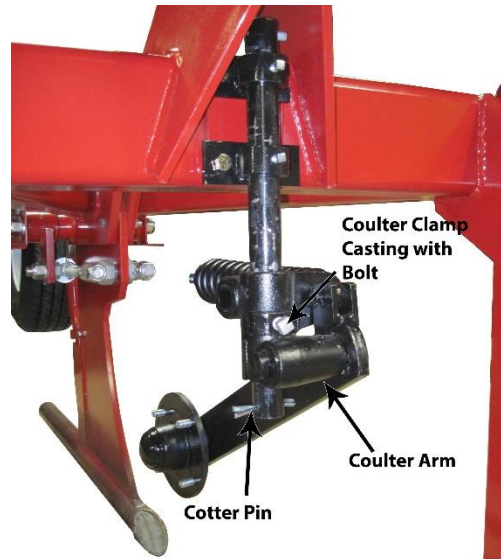

Figure 8: Coultter Arm Mounted on Coultter Shank
- c) Slide the coulter shank into position as shown in Figure 8. Clamp the coulter shank in place by tightening each bolts a little at a time until the coulter shank is secured in place.